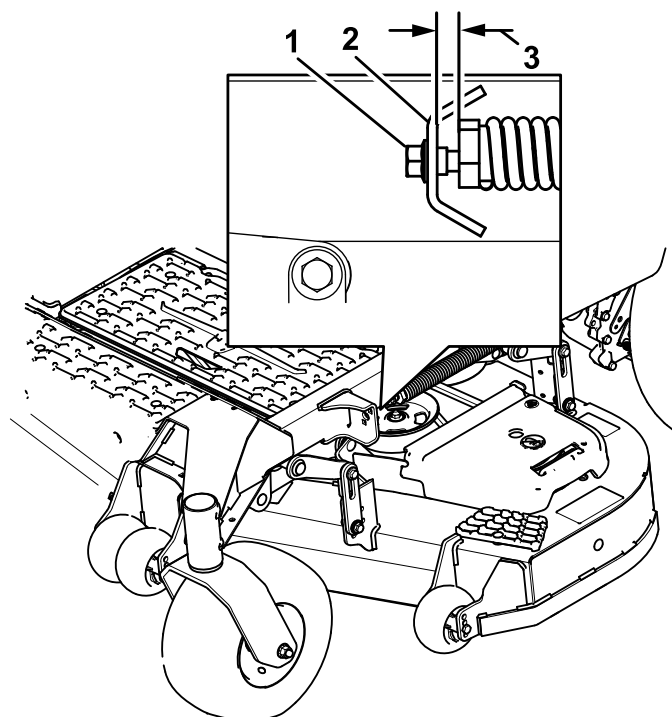

Figure 108
10. Slowly loosen the adjusting screw on the lift-assist spring until you can remove the screw (Figure 108).